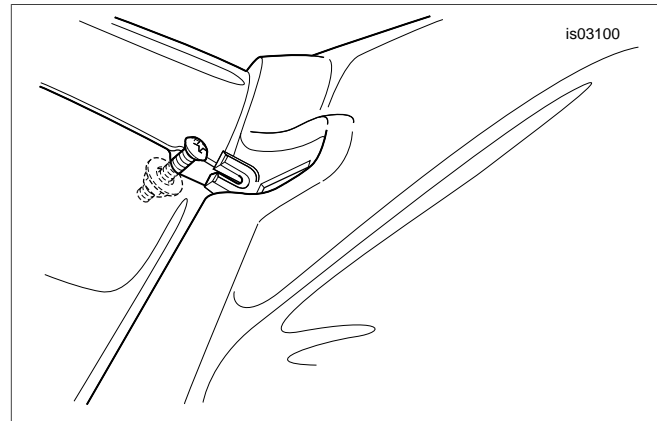

Figure 9. Wind Deflector Assembly to Nacelle (FLHRS Models)
- d. See Figure 9. Holding the screw assembly, reach inside the headlamp nacelle and insert **just the screw head** up through the opening to engage the slot in the tab at the front of the wind deflector. The nut and flat washer should remain inside the nacelle. Tighten the screw to 10-20 **in-lbs** (1.1-2.3 Nm).